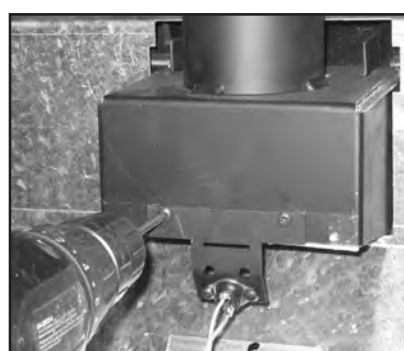

Figure 37: Install Spill Switch on Bracket.
- Install spill switch bracket with two (2) of the screws removed in the previous step. The spill switch must be angled under the opening (see Figure 37)